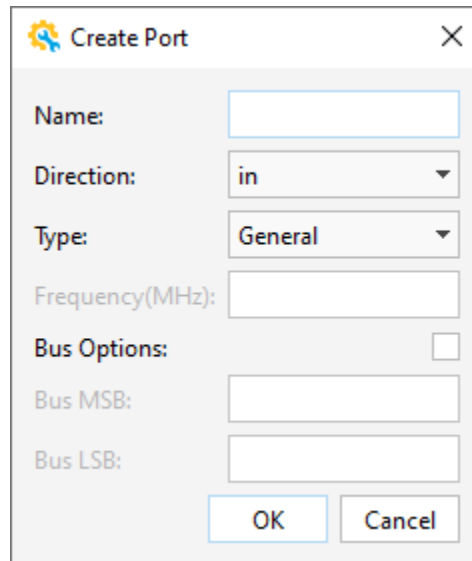

Figure 2.116. Create Port Dialog Box
- a. Right-click in the Schematic view and choose **Create Port**. The Create Port dialog box pops up (Figure 2.116).